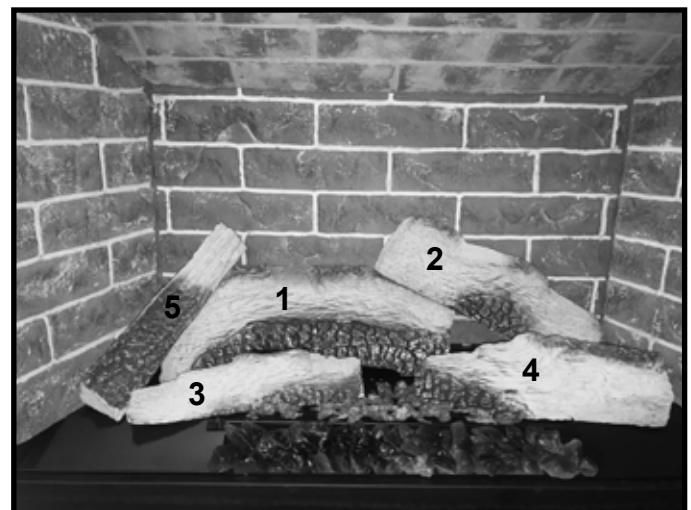

Figure 8 Install Log #5
6. **LOG #5:** Locate and install Log #5. This log does not have any “burn out” features painted on the log. The “left” end of this log will rest on the base pan and the “right” end will rest on the “left” end of Log #1. See Figure 8.